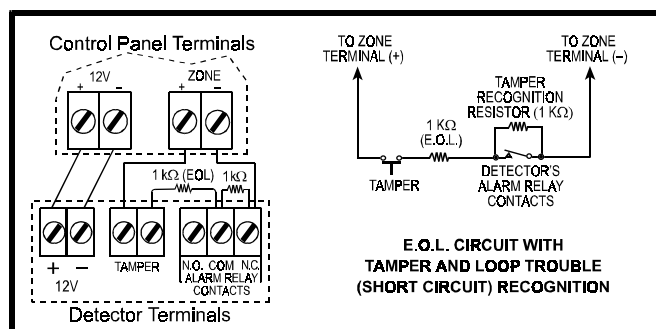

Figure 3.4. E.O.L. Configuration with Trouble / Tamper Recognition
B. E.O.L. Circuit Configuration (see Figure 3.4)